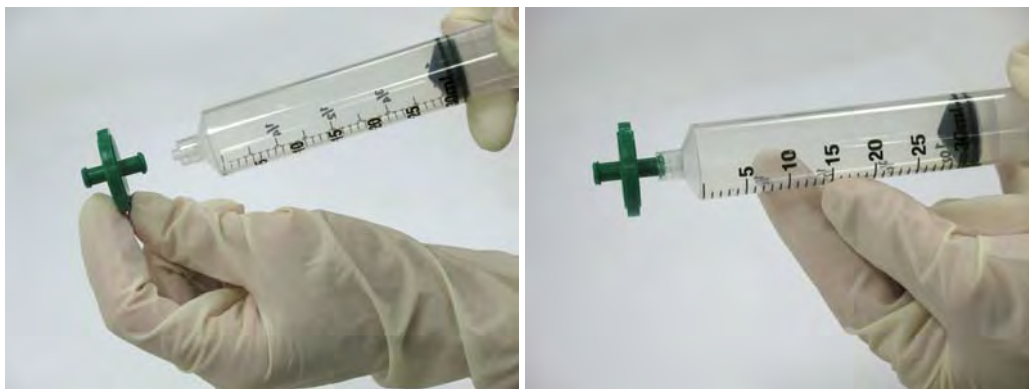

Fig. 13.27. Connecting the syringe to the inline filter.
1. Fill the Luer-Lok syringe with 30 ml of 20% ethanol and connect to the inline filter (Figure 13.27).